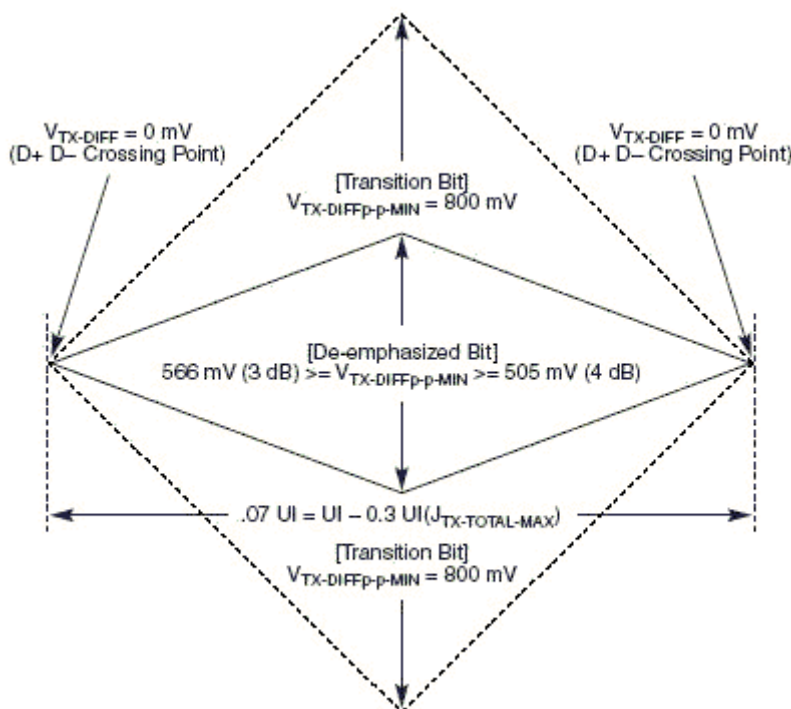
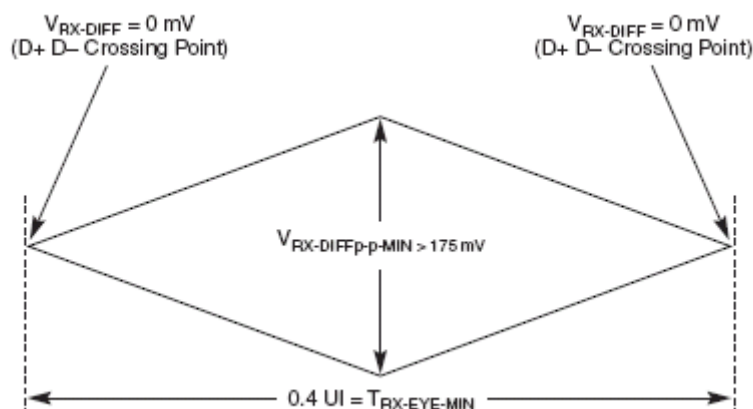
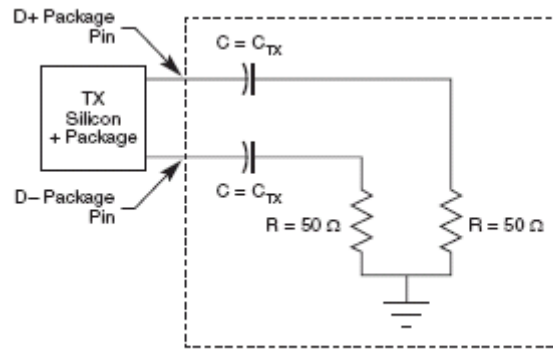

Figure 49. Minimum Transmitter Timing and Voltage Output Compliance Specifications
**Figure 50. Minimum Receiver Eye Timing and Voltage Compliance Specification**
Figure 51. Compliance Test/Measurement Load
2. Specified at the measurement point into a timing and voltage compliance test load as shown in Figure 51 and measured over any 250 consecutive TX UIs. (Also refer to the transmitter compliance eye diagram shown in Figure 49)
4. The Transmitter input impedance shall result in a differential return loss greater than or equal to 12 dB and a common mode return loss greater than or equal to 6 dB over a frequency range of 50 MHz to 1.25 GHz. This input impedance requirement applies to all valid input levels. The reference impedance for return loss measurements is 50  $\Omega$  to ground for both the D+ and D- line (that is, as measured by a Vector Network Analyzer with 50 ohm probes—see Figure 51). Note that the series capacitors  $C_{TX}$  is optional for the return loss measurement.
5. Measured between 20-80% at transmitter package pins into a test load as shown in Figure 51 for both  $V_{TX-D+}$  and  $V_{TX-D-}$ .
The TX eye diagram in Figure 49 is specified using the passive compliance/test measurement load (see Figure 51) in place of any real PCI Express interconnect + RX component.
2. Specified at the measurement point and measured over any 250 consecutive UIs. The test load in Figure 51 should be used as the RX device when taking measurements (also refer to the Receiver compliance eye diagram shown in Figure 50). If the clocks to the RX and TX are not derived from the same reference clock, the TX UI recovered from 3500 consecutive UI must be used as a reference for the eye diagram.
4. The Receiver input impedance shall result in a differential return loss greater than or equal to 15 dB with the D+ line biased to 300 mV and the D- line biased to -300 mV and a common mode return loss greater than or equal to 6 dB (no bias required) over a frequency range of 50 MHz to 1.25 GHz. This input impedance requirement applies to all valid input levels. The reference impedance for return loss measurements for is 50 ohms to ground for both the D+ and D- line (that is, as measured by a Vector Network Analyzer with 50 ohm probes—see Figure 51). Note: that the series capacitors CTX is optional for the return loss measurement.
The RX eye diagram in Figure 50 is specified using the passive compliance/test measurement load (see Figure 51) in place of any real PCI Express RX component.
Note: In general, the minimum Receiver eye diagram measured with the compliance/test measurement load (see Figure 51) will be larger than the minimum Receiver eye diagram measured over a range of systems at the input Receiver of any real PCI Express component. The degraded eye diagram at the input Receiver is due to traces internal to the package as well as silicon parasitic characteristics which cause the real PCI Express component to vary in impedance from the compliance/test measurement load. The input Receiver eye diagram is implementation specific and is not specified. RX component designer should provide additional margin to adequately compensate for the degraded minimum Receiver eye diagram (shown in Figure 50) expected at the input Receiver based on some adequate combination of system simulations and the Return Loss measured looking into the RX package and silicon. The RX eye diagram must be aligned in time using the jitter median to locate the center of the eye diagram.
The reference impedance for return loss measurements is 50. to ground for both the D+ and D- line (that is, as measured by a Vector Network Analyzer with 50. probes—see Figure 51). Note that the series capacitors, CTX, are optional for the return loss measurement.
The AC timing and voltage parameters must be verified at the measurement point, as specified within 0.2 inches of the package pins, into a test/measurement load shown in Figure 51.